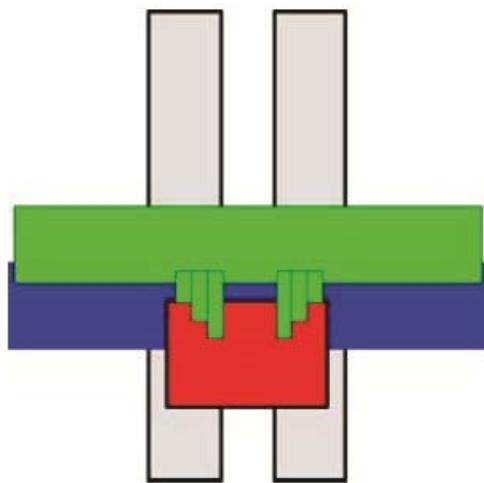

Figure 6 Left and right wrap plates and rear wrap plate finish squeezing.
6. The eject pusher ejects the tray (figure 6).